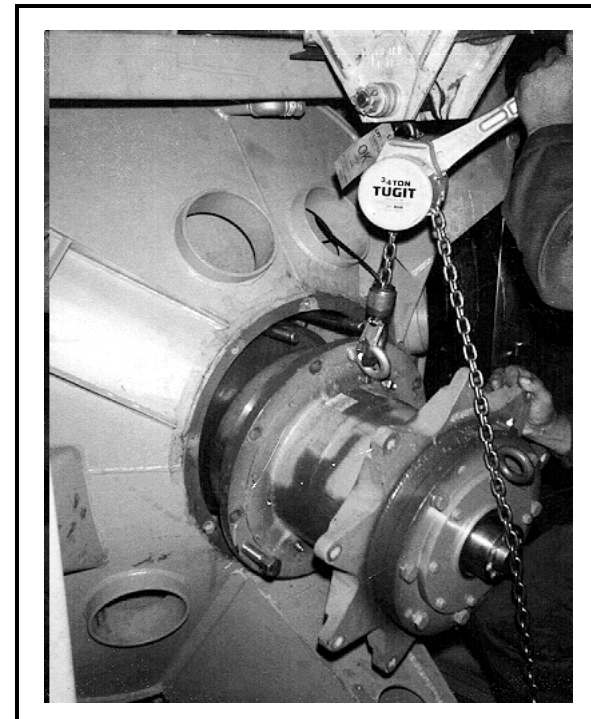

FIGURE 10 (MSSMA403AE)
8. Now remove the bearing housing completely, carefully allowing the weight of the housing to be transferred to the chain hoist as shown in FIGURE 10.